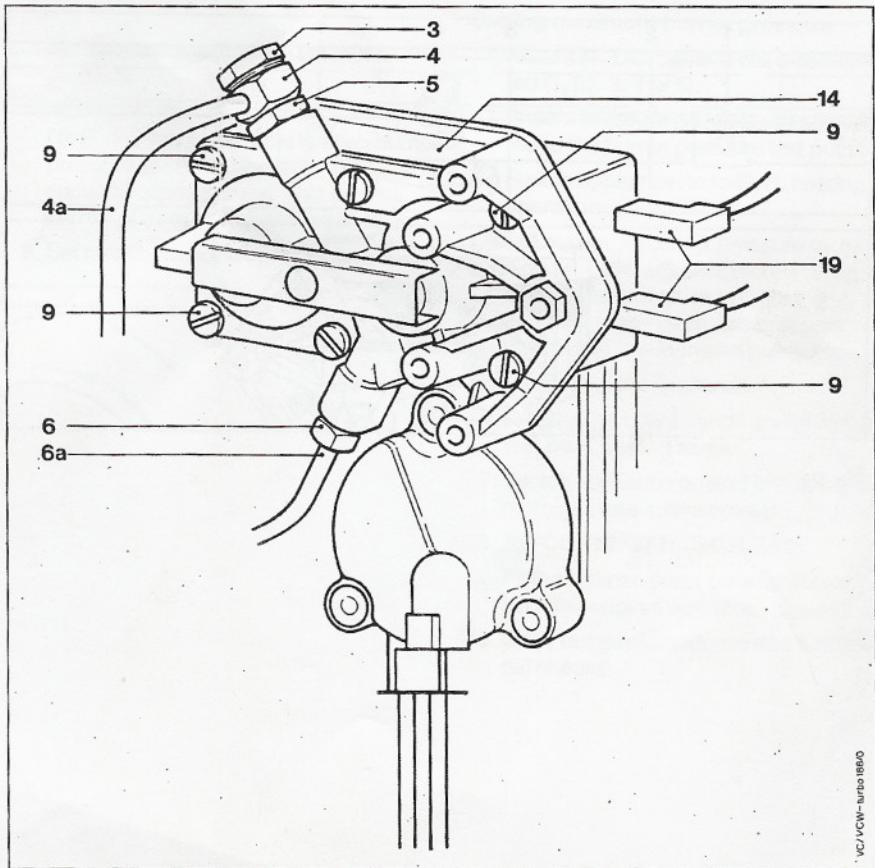

Fig. 1
If converting appliance from natural gas or town gas to L. P. G. then operator must be changed along with operating nipple (5, fig. 1) and throttle jet in burner spigot. (Contact Vaillant Ltd. for further details).
4. Unscrew retaining bolt (3, fig. 1) and move control line (4a) to one side.
5. Unscrew operator jet (5, fig. 1) and screw into the new spare operator.
6. Unscrew union nut (6, fig. 1) and move control line (6a) to one side.
7. Pull off two cable connectors (19, fig. 1).
8. Unscrew four retaining screws (9, fig. 1).
9. Pull out the complete operator (14, fig 1) towards the front, together with the gasket situated behind.
10. Reassemble in reverse order using a new gasket but at this stage **do not** refit retaining bolt (3, fig. 1) and control line (4a) or union nut (6, fig. 1) and control line (6a).
1. Ensure control lines 4a and 6a are disconnected, (Fig. 1).
7. Refit control line (4a) and retaining bolt (3, fig. 1).
Refit control line (6a) and union nut (6, fig. 1).